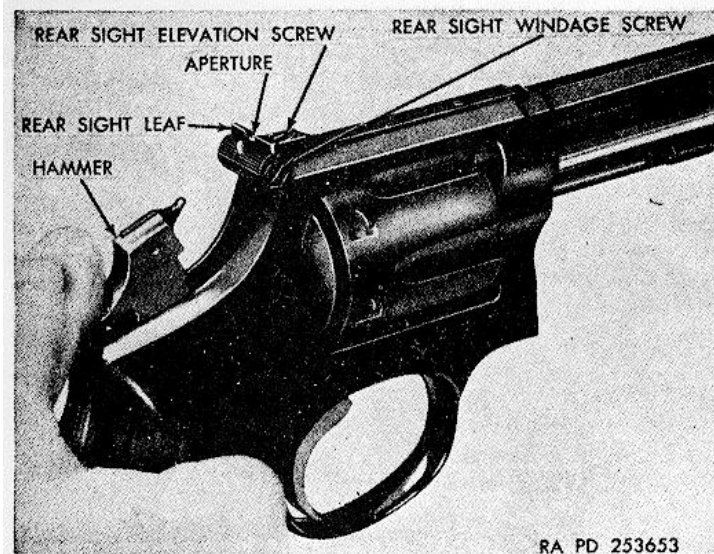
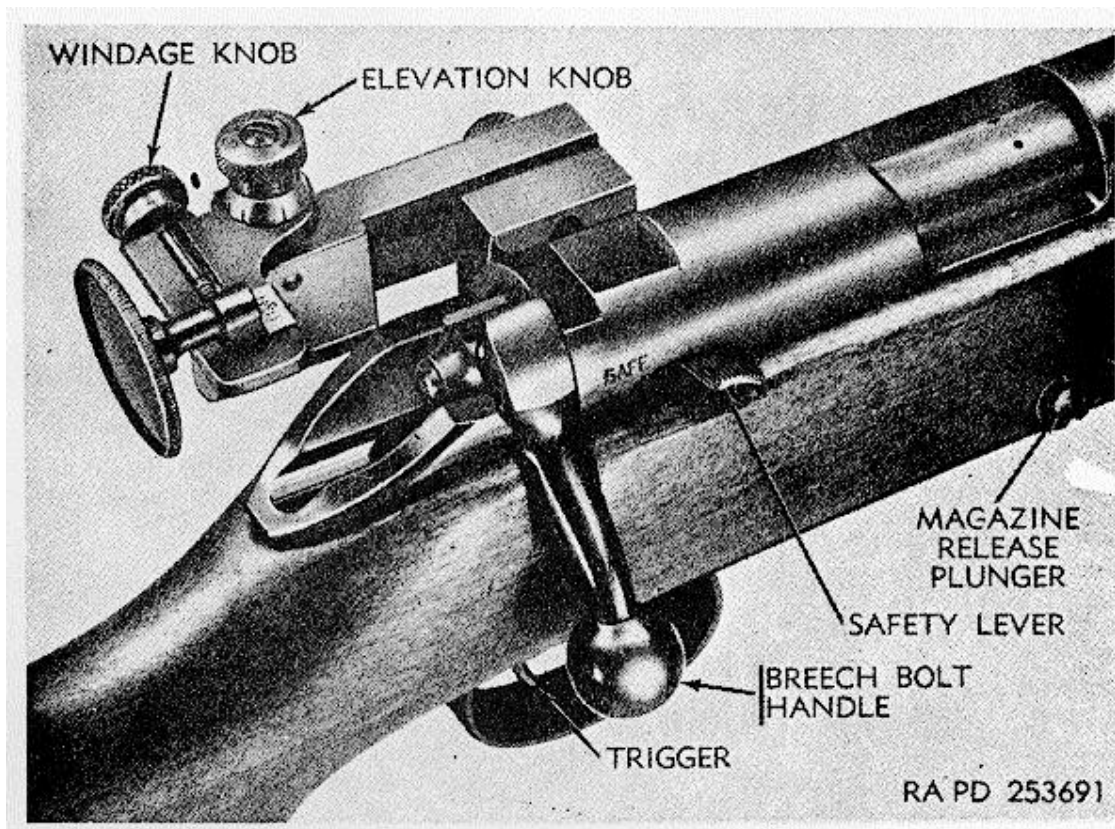
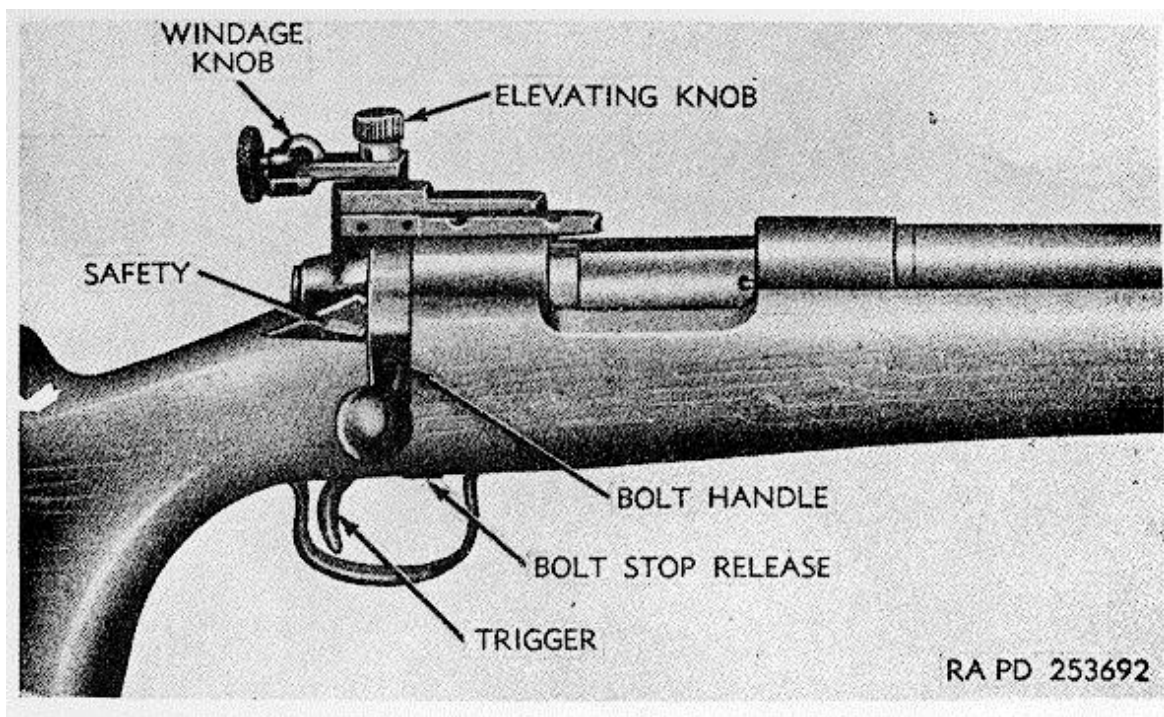

Figure 25. Cocking hammer to single action position (Smith and Wesson).
Figure 26. Controls cal..22 rifle M12 (Winchester model 52, heavy barrel).
Figure 27. Controls cal..22 rifle M12 (Remington model 40X-S1).
- (1) The hammer (fig. 25) is located at the rear of the frame above the stock. It is knurled and shaped to fit the thumb.
- (2) Depress the hammer fully downward and to the rear, to cock the revolver for single action firing.
- (3) Depressing the hammer to one-quarter full cock allows the cylinder to be rotated.
- (1) For double action firing, apply pressure to the trigger.
- (2) For firing single action, apply pressure to the trigger after the hammer has been cocked as described in *c* above.
*g. Rear Sight Elevation Screw (fig. 25).*
- (1) The rear sight elevation screw is located directly in front of the sight leaf on the rear of the frame.
- (2) Turning the screw clockwise one click, moves point of bullet impact downward 1/2 inch at a range of 25 yards.
*h. Rear Sight Windage Screw (fig. 25).*
- (1) The rear sight windage screw is located on the right side of the revolver beneath the sight leaf. A center index mark on the sight base locates the center position of the leaf.
- (2) Turning the screw clockwise one click, moves point of bullet impact 1/2 inch to the left for a range of 25 yards.
*a. Breech Bolt Handle (fig. 26).*
- (1) The breech bolt handle is located at the rear right side of the bolt assembly.
- (2) Lifting up the bolt handle cocks the firing pin.
- (3) Pulling the bolt handle and bolt assembly completely rearward extracts and ejects a cartridge.
- (4) Pushing forward on the bolt handle seats another cartridge from the magazine into the chamber.
- (5) Turning the bolt handle down will lock the breech ready for firing.
- (1) *General.* The safety lever (fig. 26) is located at the front of the bolt handle and operates on a horizontal plane. It is shaped to fit the thumb.
- (2) *Safe.* When the safety lever lock is at the rear of its slot, both the firing pin and bolt are positively locked.
- (3) *Fire.* When the safety lever is at the front of its slot, the rifle is ready to be fired.
*a. Bolt Handle (fig. 27).* Refer to paragraph 13a. After inserting a cartridge by hand, pushing forward on the bolt handle seats the cartridge in the chamber.
- (1) safety forward to the FIRE position and press up on the bolt stop release located just forward of the trigger.
- (2) Rotate bolt handle up and away from right side of receiver, and pull the bolt out of the rear of the receiver.
*d. Safety (fig. 27).*
- (1) *General.* The safety is to the rear of the bolt on the right side of the receiver.
- (2) *Safe.* The thumb piece of the safety is to the rear. With the safety in the SAFE position, the bolt handle only is located in the down position.
- (3) *Fire.* When the safety is in the FIRE position, the bolt handle can be raised to unlock the bolt and open the action for loading the weapon. Operation of the trigger will release the firing pin and fire the loaded weapon.
*e. Trigger.* The trigger (fig. 27) is located in the bottom of the stock immediately below the bolt handle
### a. Bolt Handle (fig. 27).